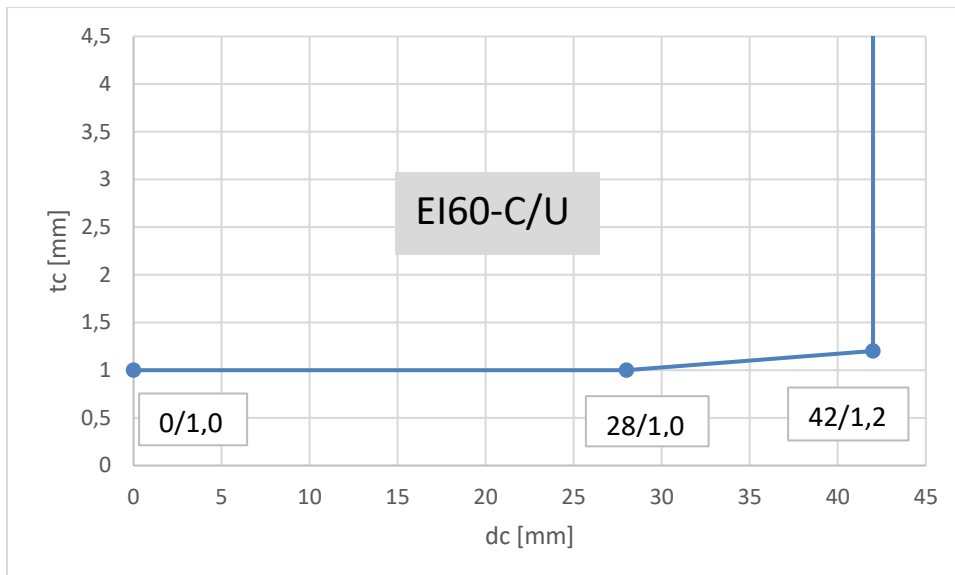

Figure 54: Classified pipe range for glass-wool insulated metal pipes, sealed with CFS-IS in CFS-CT HDB
Classification given in Figure 54 is valid for:
- Pipe diameter and minimum pipe wall thickness: see Figure 54